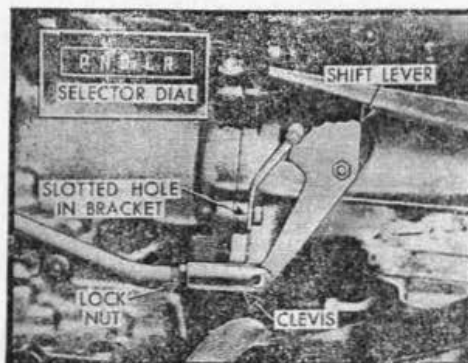

Fig. 31 Twin Turbine Dynaflo control linkage
1. To adjust, place the selector lever in the Park (P) position.
2. Disconnect manual rod at shift lever, Fig. 31.
6. Place selector lever in Reverse (R) and note position of roller on detent quadrant. Roller should be in the reverse notch of quadrant.